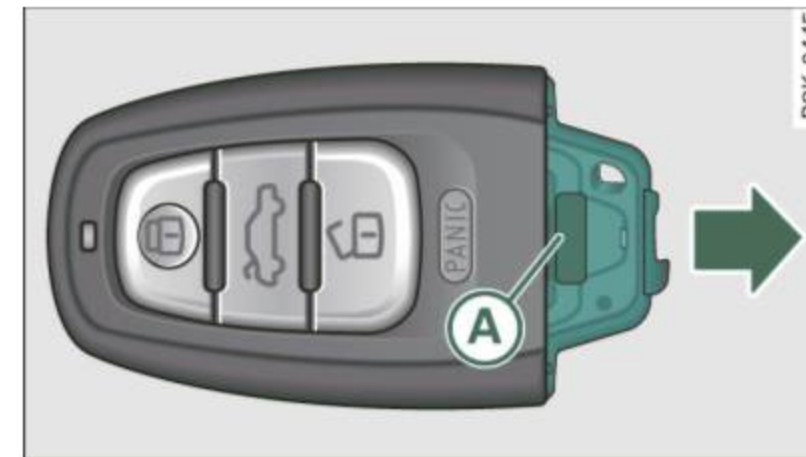

Fig. 30 Remote master key: Removing the battery holder
- Press the release button **(A)** ⇒ *page 43*, fig. 30 on the battery holder and at the same time pull the battery holder out of the master key in the direction of the arrow.